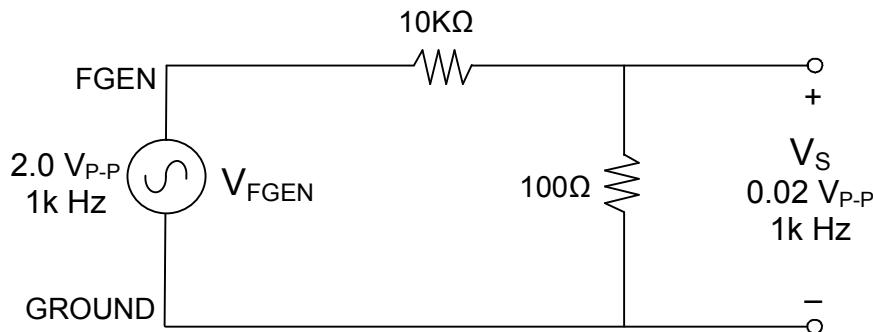

Figure 6.3: Voltage divider network to generate V_s
- In order to make the input signal, V_s , small enough to prevent distortion of the amplifier output, use the voltage divider circuit shown in Figure 6.3, where V_s is the voltage across
the 100Ω resistor. The voltage divider circuit shown in the Figure 6.3 divides input voltage from FGEN by 100:1. Thus, to get $V_S = 0.02V_{P-P}$, set FGEN to provide $2.0V_{P-P}$ as input to the voltage divider. **You may find, it is not possible to see the correct amplitude of V_S on the oscilloscope**, but if you are applying $2.0V_{P-P}$, 1kHz, at the input of the voltage divider shown in Figure 6.3, you can be assured that $V_S = 0.02V_{P-P}$, 1kHz.